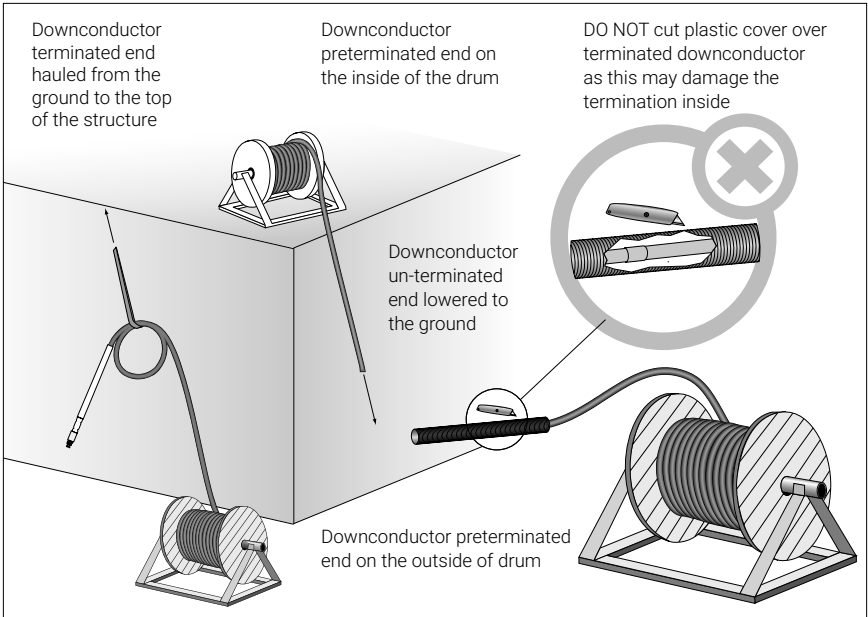

Figure 6: Cable pre-termination and drum locations
It is VERY IMPORTANT that when removing these tubes, they are not removed with a knife or cut in any way as this will damage the outer layer of the termination. e.g. It is suggested that the tape and cover are best removed by hand. (See Figure 6)
Locate the downconductor cable drum at the appropriate location (refer to Figure 6).
- If the downconductor has been upper terminated on the inside of the drum, then the drum must be at or near the top of the structure, so that the downconductor can be unwound from the drum towards the grade (see Figure 6).